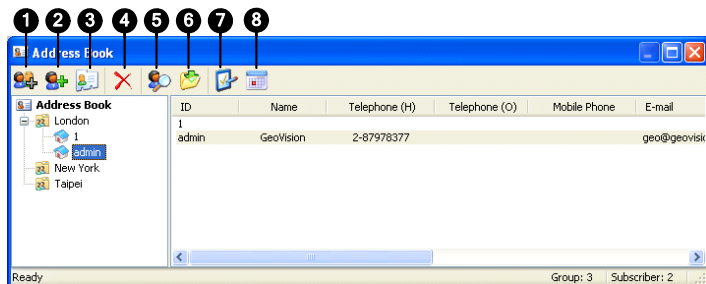

Figure 1-2
1. Click the **Add A Group** button (No. 1, Figure 1-2) to create a group.
2. Click the **Add A Subscriber** button (No. 2, Figure 1-2). The Subscriber Address Book dialog box appears.
6. The options in the dialog box are discussed below. You may accept the default settings here, and edit them later by clicking the **Subscriber Settings** button (No. 6, Figure 1-2) on the toolbar. When you click **OK**, the subscriber account then is created.